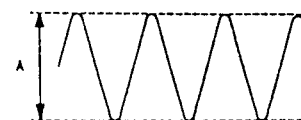

Figure 15
- 3) Adjust VR151 until the amplitude A of Fig. 15 is maximum.